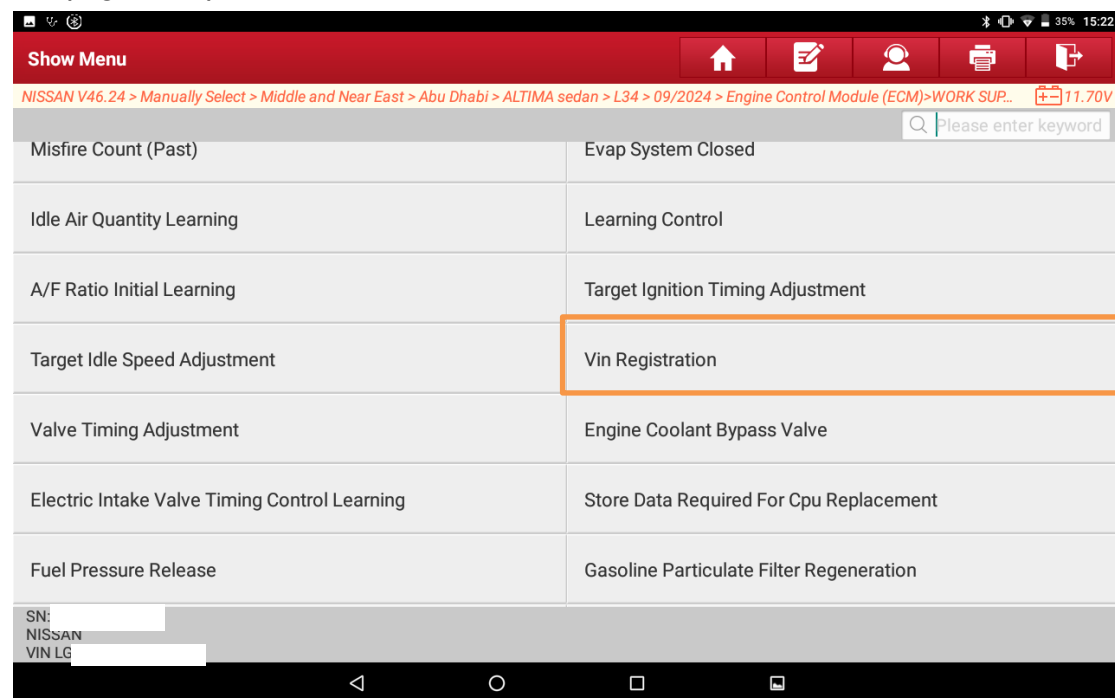

Figure 10
6. On the [WORK SUPPORT] menu interface, choose [VIN Registration] (Figure 10).